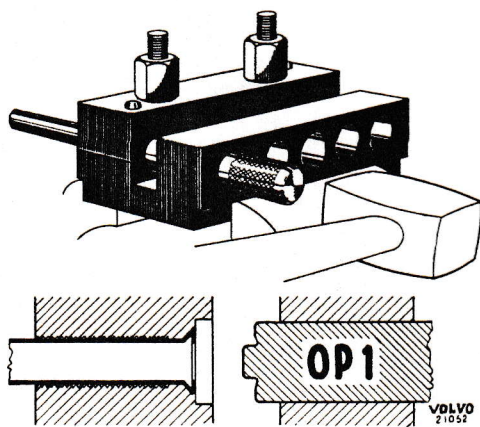

Fig. 27. Flaring brake pipeline.
3. Place drift OP I in the tool. Knock the drift with a copper mallet until the drift bottoms. The end of the pipe is thus flared as shown in Fig. 27.